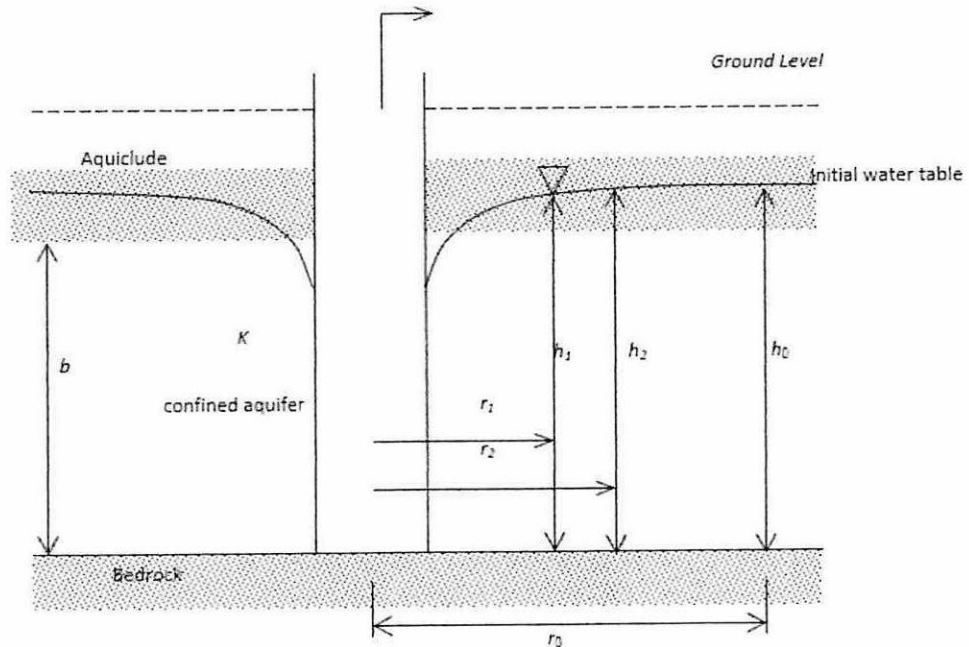

Figure Q5.1: Aquifer profile
- (b) Based on **Figure Q5.1** explain the transition from the fundamental equation of radial flow ($Q = AV$) to its application in the derivation process for flow in an aquifer. (6 marks)